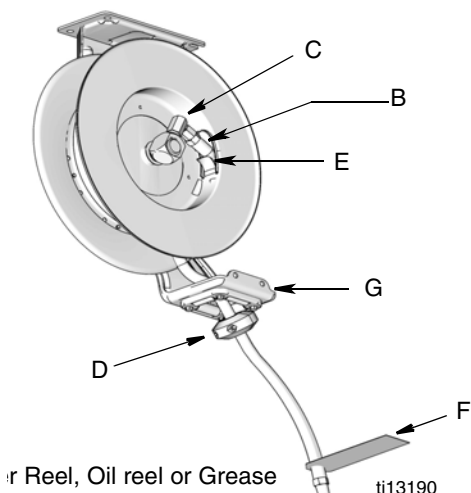

FIG. 21
8. Run the end of hose (B), through the hose guide (G) and then the hole (E) in reel (FIG. 21).